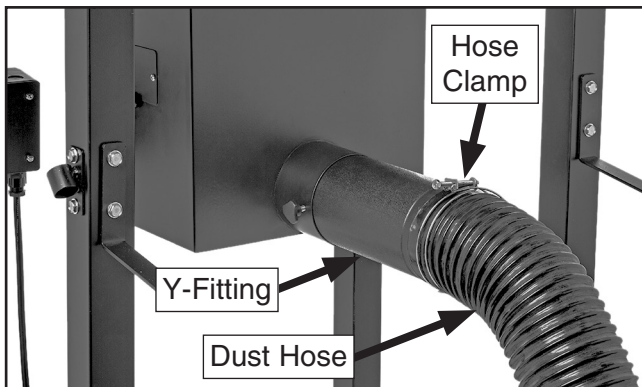

Figure 40. Example of 4" dust hose connected Y-fitting.
1. Fit a 4" dust hose over dust port (see **Figure 40**), and secure with wire hose clamp.